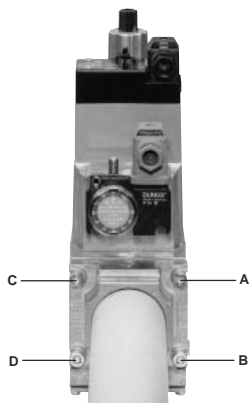
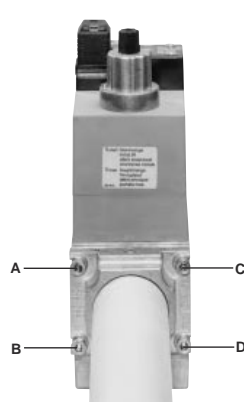

Fig. 3
Fig. 4
1. Loosen screws A and B **do not** unscrew (Fig. 3 - Fig. 4).
2. unscrew screws C and D (Fig. 3 - Fig. 4).
3. Remove MultiBloc between the threaded flanges (Fig. 4).